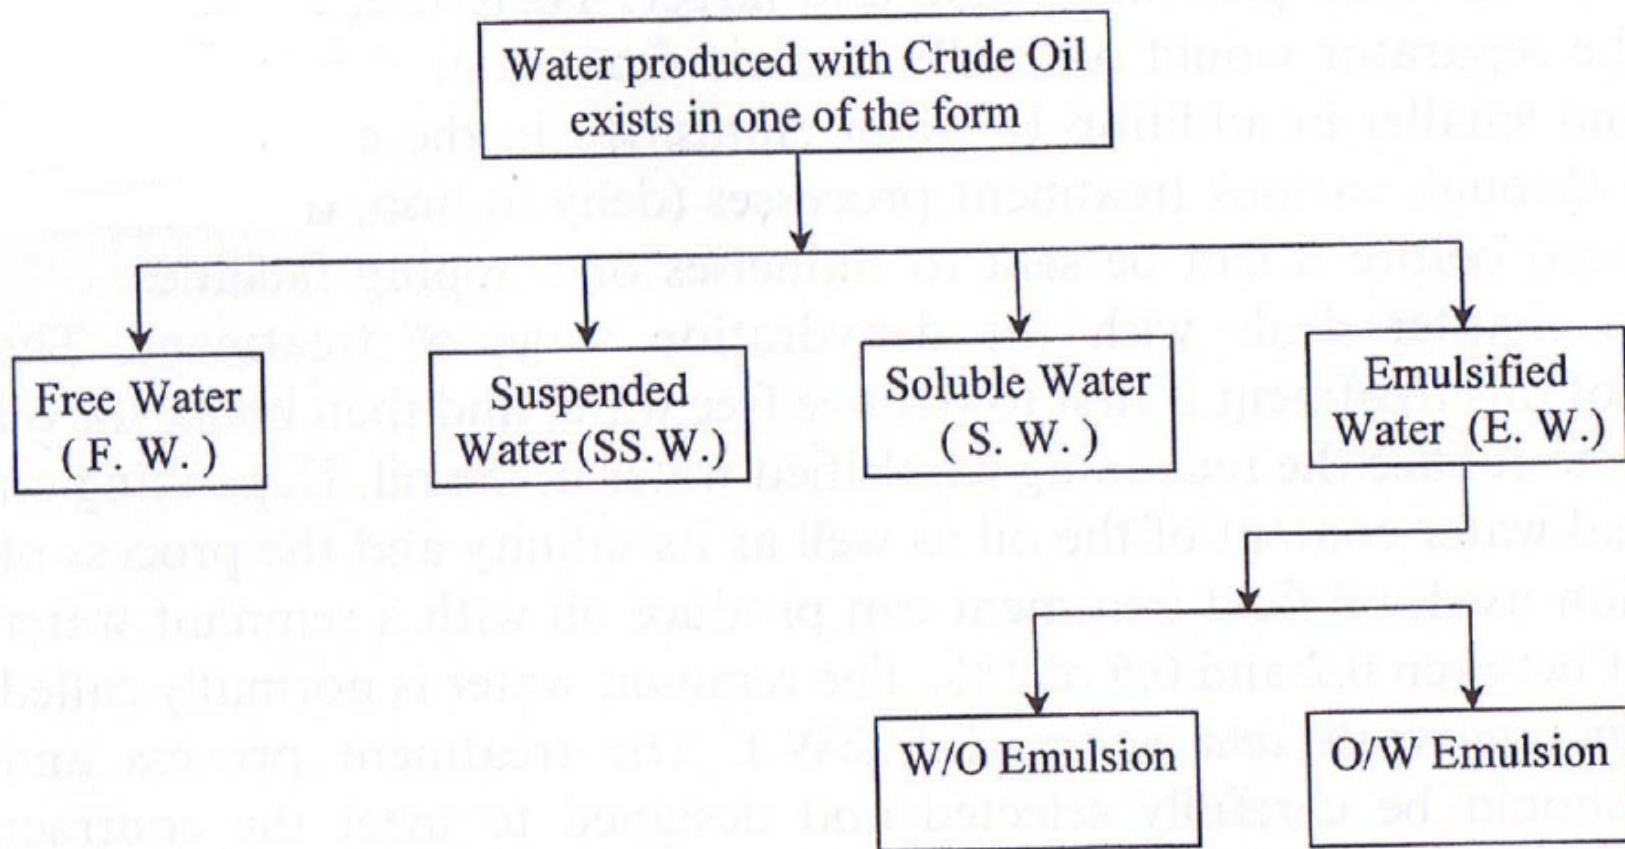

Figure 1
- Salt water is thus produced with oil in different forms as illustrated in Figure 1.